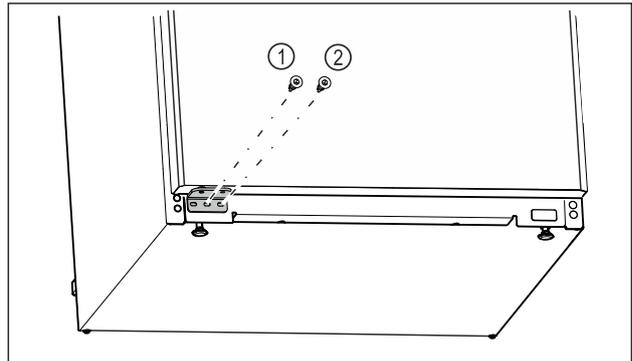

Fig. 24
- ▶ Tighten the middle screw of the swap bearing block Fig. 24 (1) with a Torx 20 screwdriver.
- ▶ Tighten the inner screw of the swap bearing block Fig. 24 (2) with a Torx 20 screwdriver.